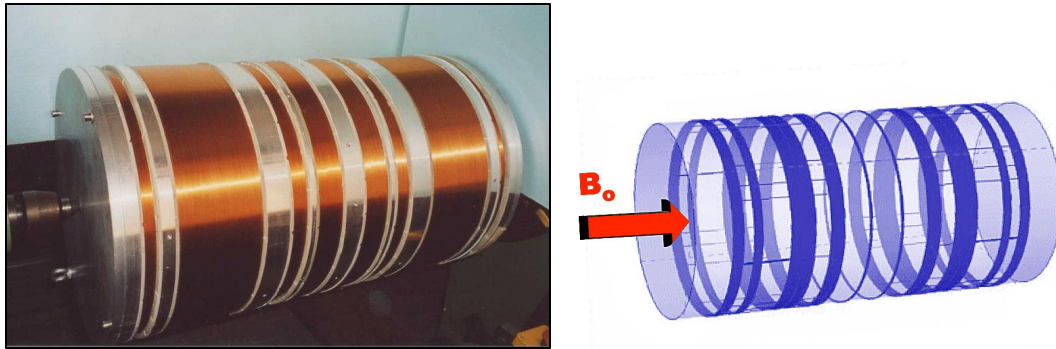

Figure 3: Solenoidal superconducting magnet under construction before being placed in cryostat.
- This configuration maintains symmetry of the field along the  $z$ -axis ( $B_0$  direction) see figure 3.